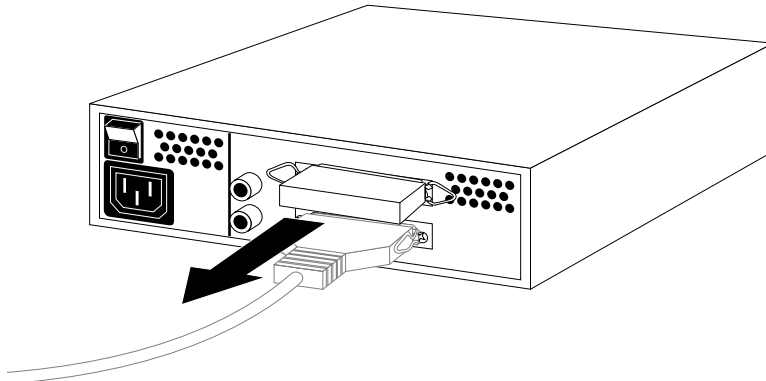

Figure 5-7 Removing the Terminator From the Last Device on the Daisy-Chain
- If you are daisy-chaining a device to another device, remove the terminator from the connector on the last device in the chain by squeezing the clips on both sides of the terminator and pulling it off. (See Figure 5-7.)